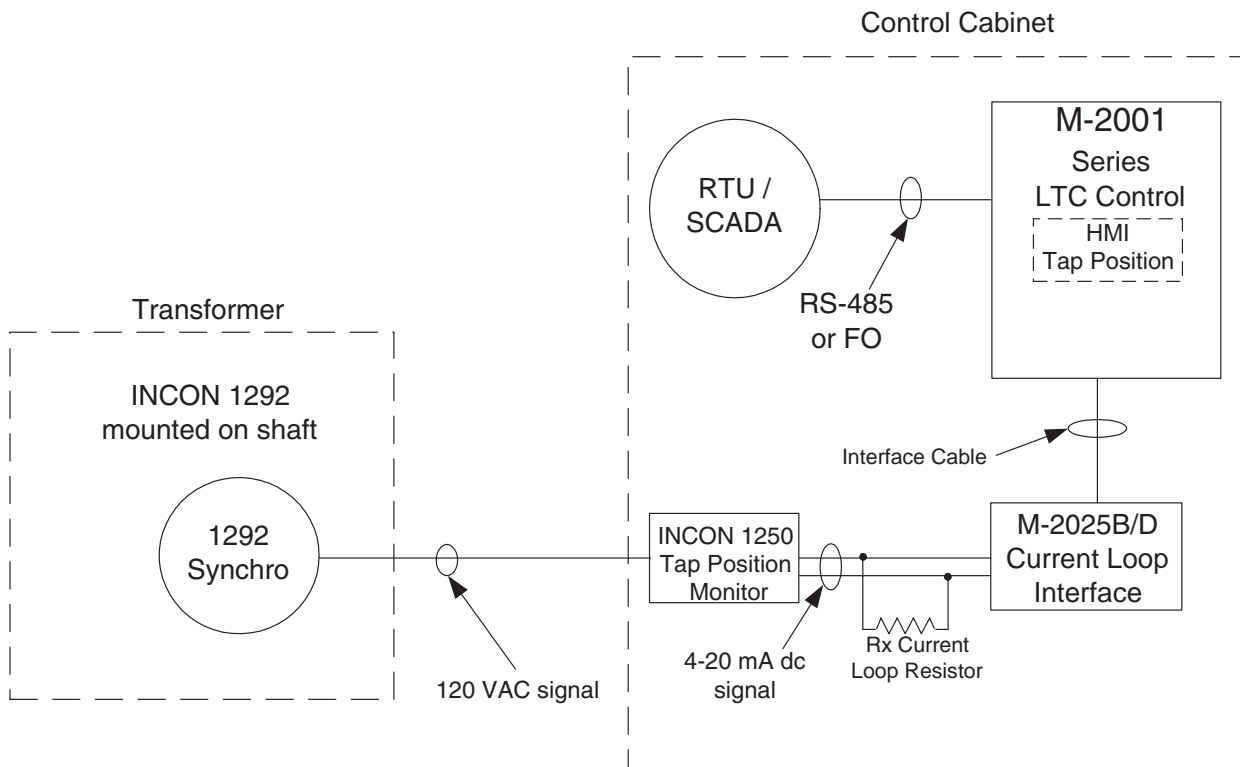

Figure 4-7 Tap Position Scheme Using INCON Devices
This application is traditionally used with the INCON 1250 Tap Position Monitoring device (Figure 4-7). The INCON 1250 supplies the 120 VAC to the INCON 1292 rotor winding(s). It then measures the resulting signals from the stator winding to determine the shaft's rotational position. This information is converted to a tap number and displayed on the front panel numeric readout. An analog current signal is also generated which corresponds to tap position. The M-2025B(D) Current Loop Interface module accepts this current analog. The scheme can be used with all M-2001C Load Tap Changer models.